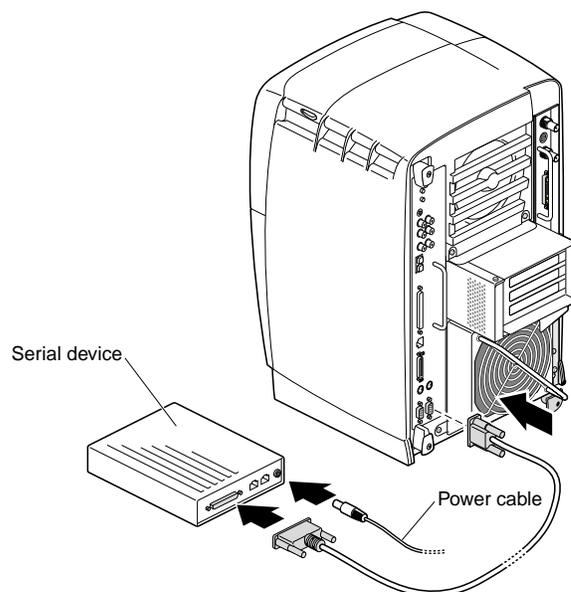

Figure 6-13 Plugging In the Serial Cable
- Plug the other end of the cable to the serial connector on the back of your workstation, as shown in Figure 6-13.